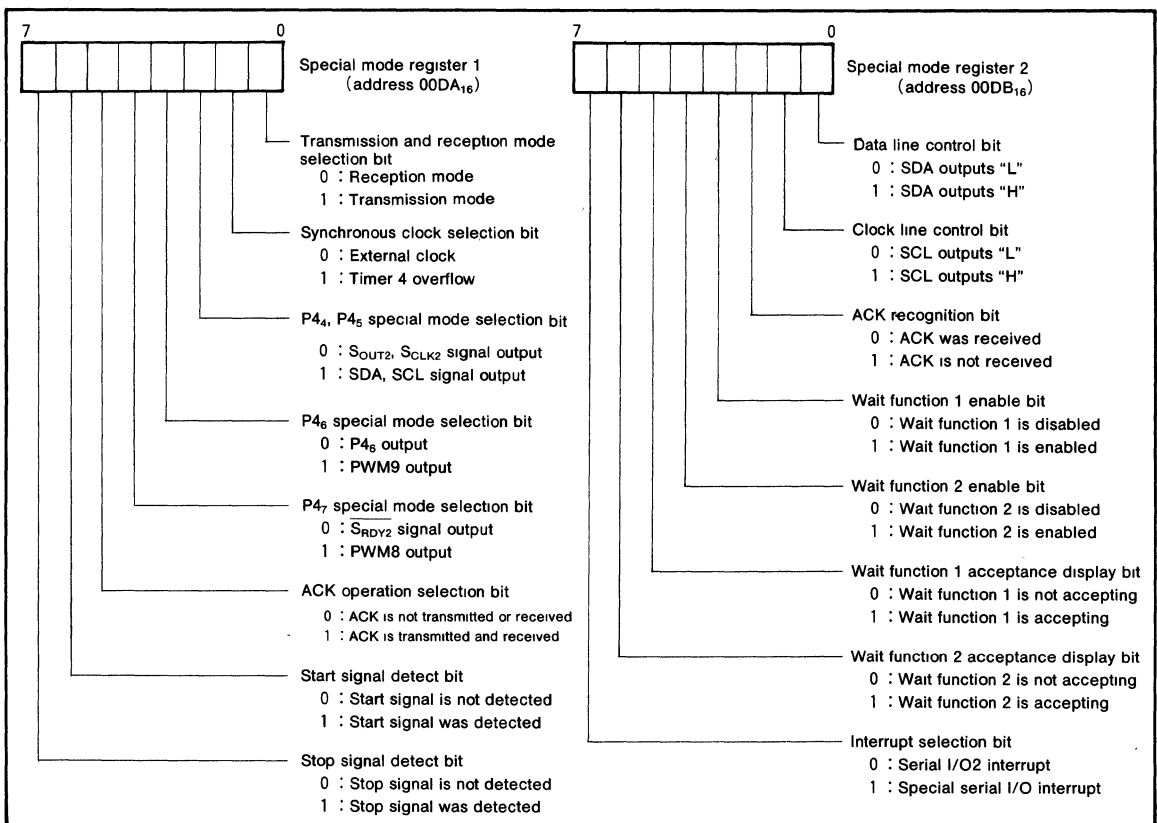

Fig. 16 Structure of special mode registers 1 and 2
(1) Master transmission
① To generate an interrupt at the end of transmission, set bit 7 of special mode register 2 (address 00DB₁₆) to "1" so as to special serial I/O interrupt is selected.
② Then set bit 3 of interrupt control register 2 (address 00FF₁₆) to "1" so as to special serial I/O interrupt is enabled. Clear the interrupt disable flag I to "0" by using the CLI instruction.
③ The output signals of master transmission SDA and SCL are output from ports P₄₄ and P₄₅. Set all bits (bits 4 and 5) corresponding to P₄₄ and P₄₅ of the port P4 register (address 00C8₁₆) and the port P4 direction register (address 00C9₁₆) to "1".
④ Set the transmission clock. The transmission clock uses the overflow signal of timer 4. Set appropriate value in timer 4. (For instance, if f(X_{IN})/16 is selected as the clock source of timer 4 and 4 is set in timer 4 when f(X_{IN}) is 4MHz, the master transmission clock frequency is 25kHz.)
⑤ Set contents of the special mode register 2 (address 00DB₁₆). (Usually, the value is "83₁₆".)
⑥ Set the bit 3 of serial I/O2 mode register (address 00DE₁₆). After that set the special mode register 1 (address 00DA₁₆). Figure 16 shows the structure of special mode registers 1 and 2.